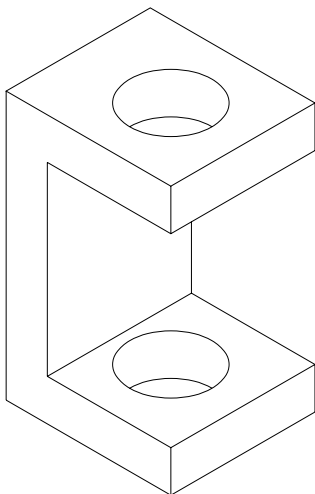

Fig. 7.20 First example – isometric drawing
First example – isometric drawing (Fig. 7.20)
7. Finally using **Trim** remove unwanted parts of lines and ellipses to produce Fig. 7.20.